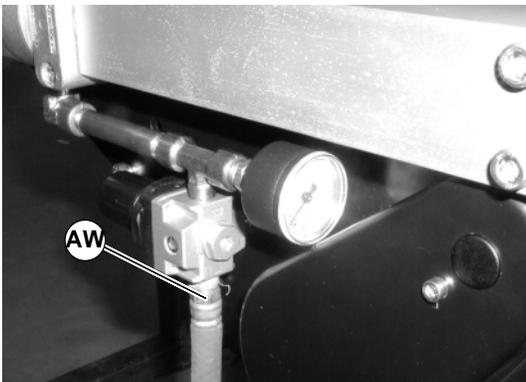

Figure 78
1. Remove air supply and remove hose (AW of Figure 78) from center drive.